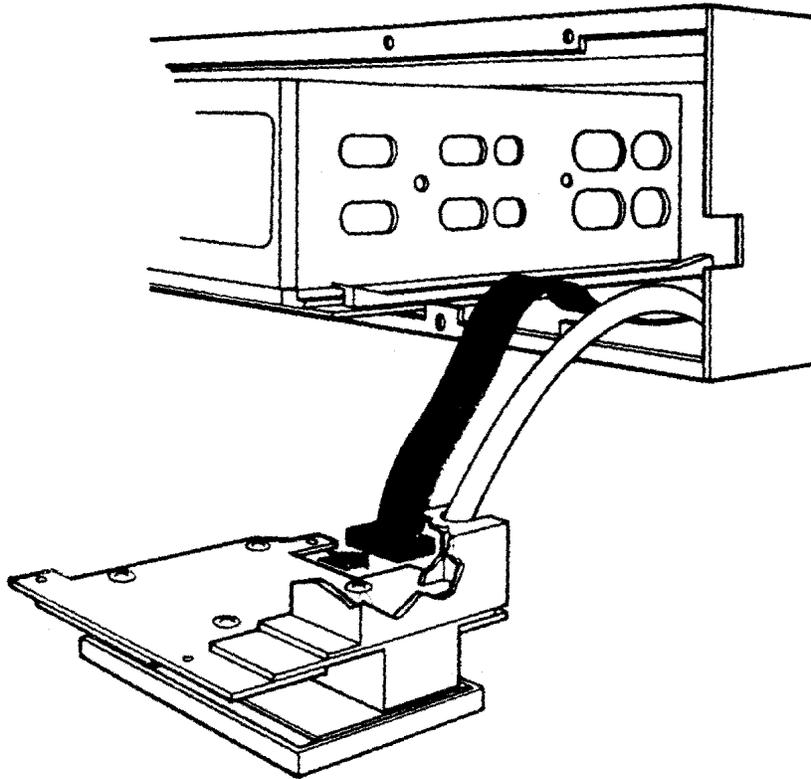

Figure 6-30: Front Control Panel Removal
5. Remove the connector from the control panel printed circuit board (Figure 6-30).